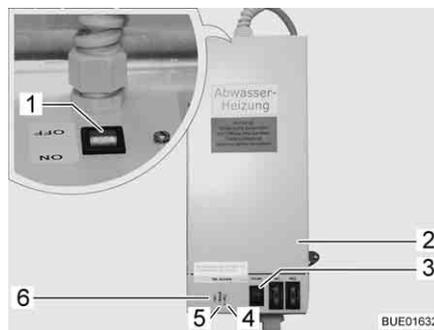

Fig. 147 Transformer with control unit
The 230 V AC/12 V DC transformer (Fig. 147,2) is installed in the wardrobe or in the storage area beneath the seating group, depending on the model.
- Indicator lamp (Fig. 147,5) lights up in green: Regulation in operation
- Indicator lamps (Fig. 147,4 and 6) light up in red: Waste water pipes are warmed
A test button (Fig. 147,3) is integrated in the housing with which the control unit can be operated for a short time. By pressing the test button, the function of the warming unit can be tested, even if the ambient temperature is above 5 °C.
- Turn switch (Fig. 147,1) on the transformer (Fig. 147,2) to "ON".
- Turn switch (Fig. 147,1) on the transformer (Fig. 147,2) to "OFF".